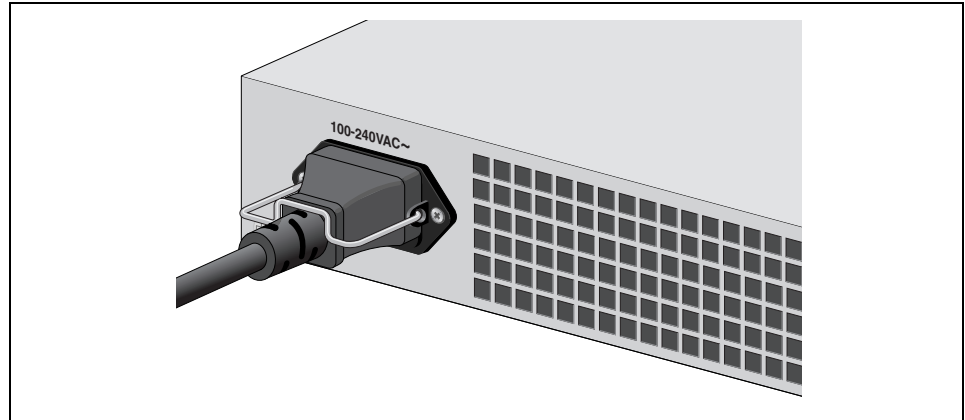

Figure 28. Securing the Power Cord with the Retaining Clip
3. Lower the power cord retaining clip to secure the cord to the switch, as shown in Figure 28.